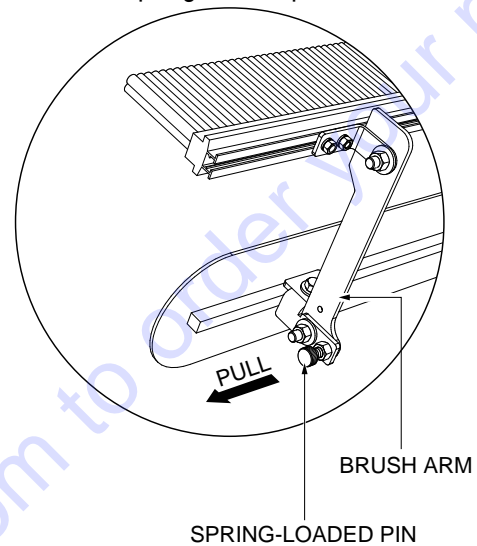

Figure 34. Lowering the Fresno Brush
1. Pull the spring-loaded pin on both sides of the brush arm to release the brush (Figure 34).